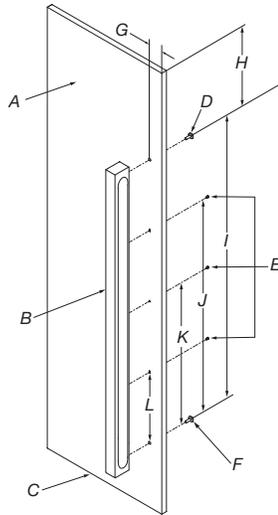

Figure 1 - Refrigerator/freezer door
- For hole locations and the spacing requirements of NOIR™ handle mounting, refer Figure 1.
NOTE: Figure 1 represents a Side by Side (left) freezer panel, a French door (left) refrigerator panel, a bottom mount left swing refrigerator panel, and column refrigerator/freezer panel. Mirror the hole pattern on the opposite door panel as required.
- Mark the hole locations as shown in Figure 1.